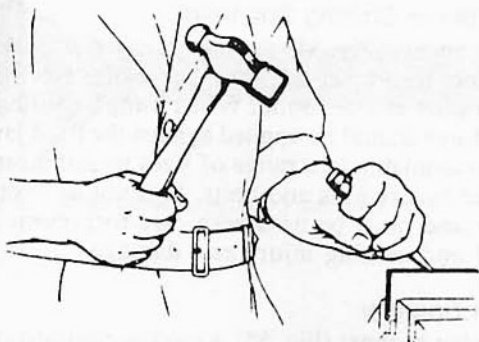

Figure 44 Method of holding hammer and chisel (R.H.)
- 4 Hold the hammer in the other hand, near the end of the handle (Fig. 44).